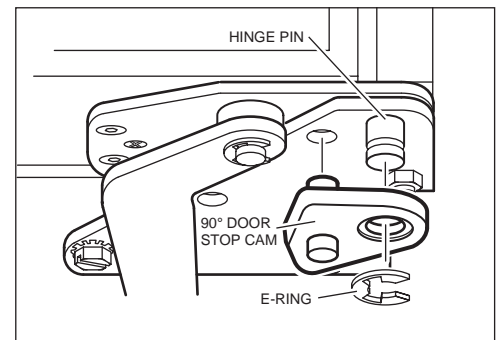

**Figure 2-15. 90° Stop Pin (611G-2, 650G-2)**
- b. Insert door stop pin up into threaded hole in lower cabinet hinge and tighten (See Figure 2-15).